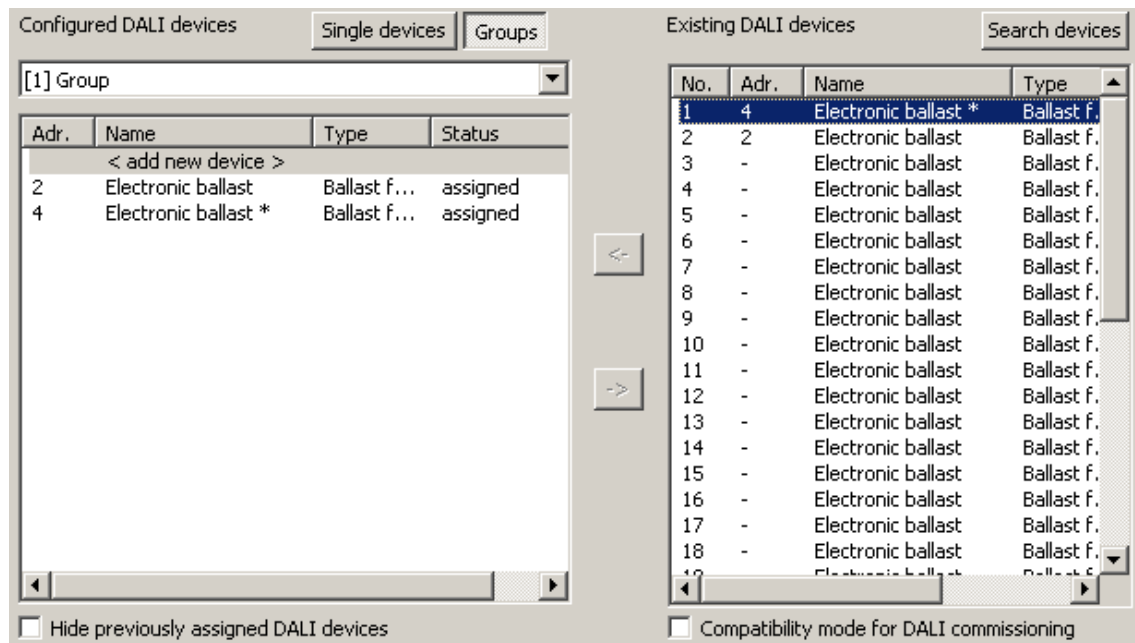

Figure 65: Operating device assigned to a group
- Assign one or more available DALI operation devices to the group, as described above. The assigned operating devices remain visible in the right-hand section and also appear in the left-hand section for the selected group (figure 65). In the right-hand area, these electronic ballasts receive the short address of the assignment.